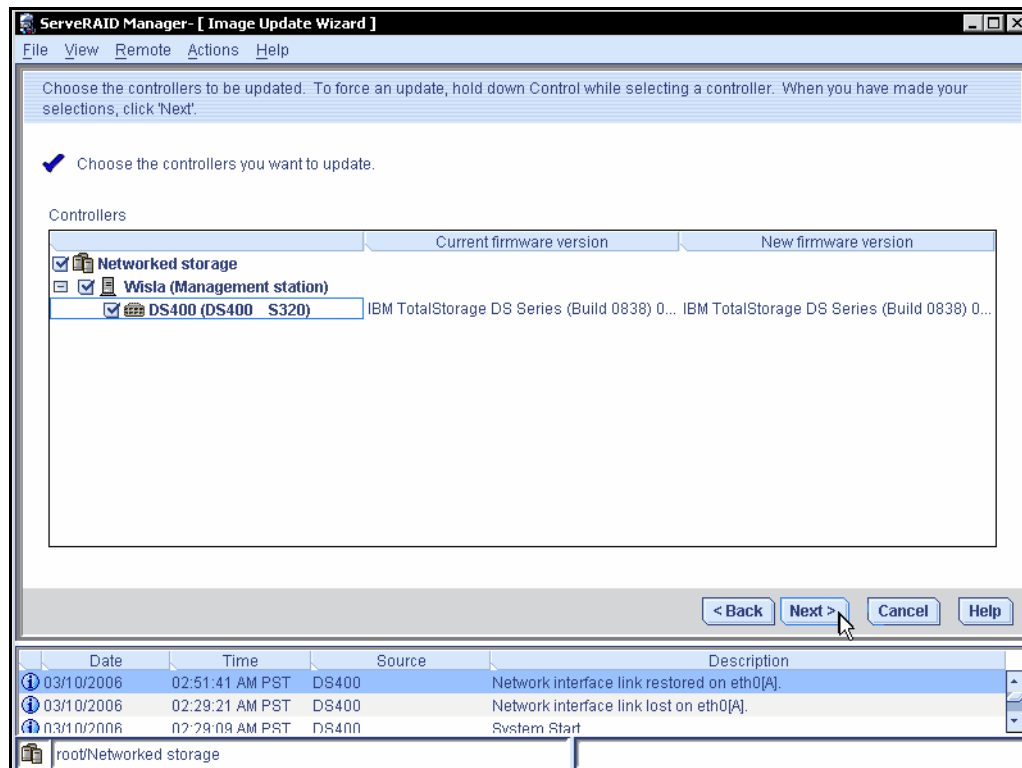

Figure 33 Choose controller to update
5. Choose the controller to update, and click **Next**. See Figure 33.